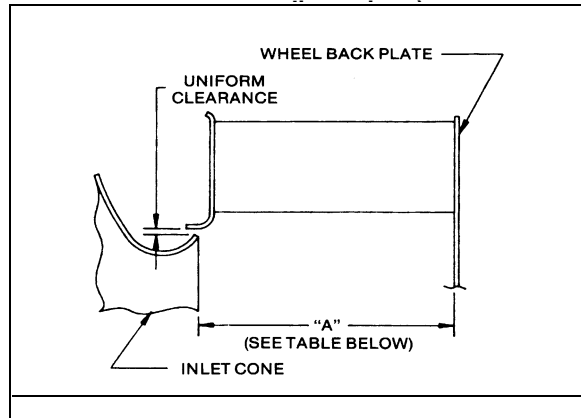

Figure 3
6. When installing a new wheel or cone, the proper wheel-to-inlet cone clearance must be maintained (see Figure 3 for correct full-width wheel dimensions).